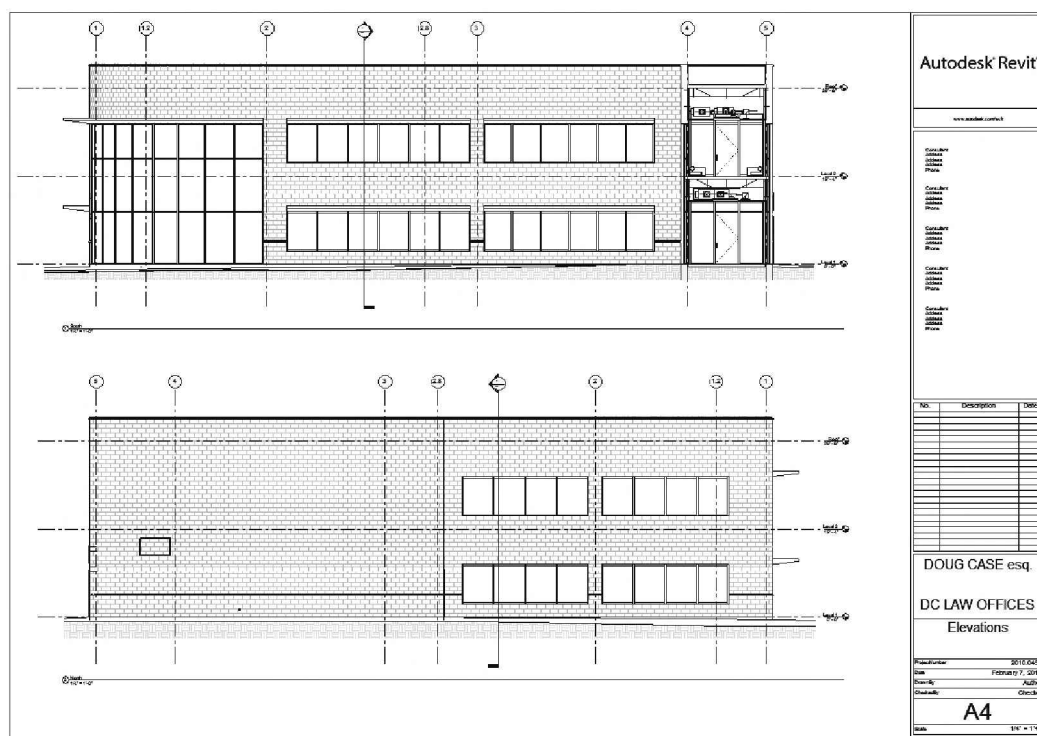

FIGURE 16-1.8 North exterior elevations
22. Adjust the location of the elevations on sheets A4 and A5 as shown in Figure 16-1.8.